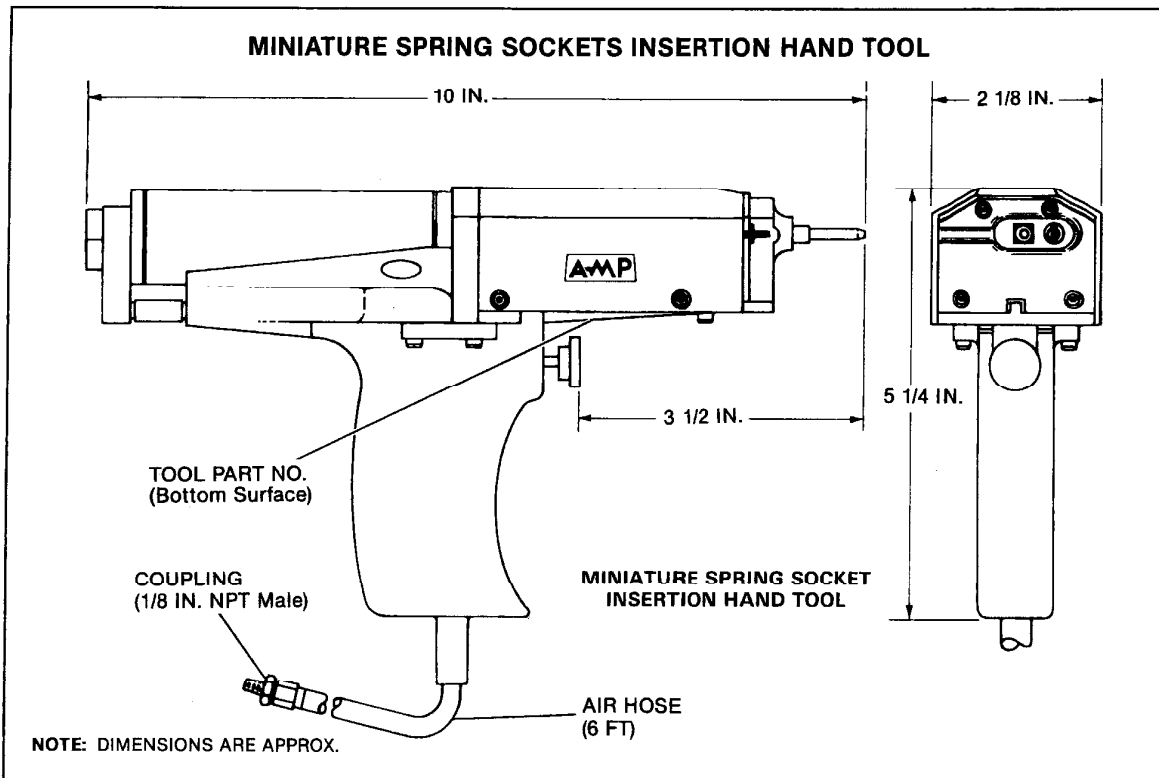

Fig. 1-1. Dimensions
The dimensions and specifications for the insertion hand tools are shown in Figures 1-1 and 1-2.
Tool DimensionsSee Figure 1-1
2.1. Physical Description (Figure 1-1)